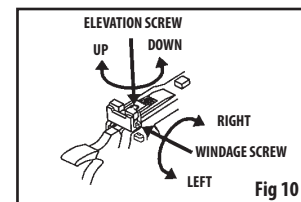

Fig 10
- The airgun is correctly aimed when the front sight blade is positioned exactly in the center of the notch of the rear sight. The top of the front sight blade should be even with the top of the notch in the rear sight. The bulls-eye should appear to rest on the top of the front sight. (Fig. 10)